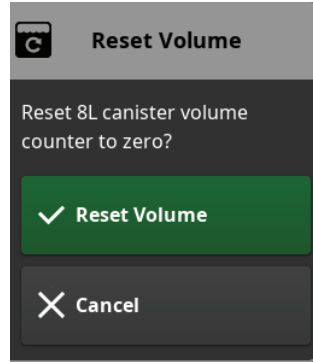

Figure 24 – To Reset Fluid Volume Value
5. If the procedure fluid volume measurement reads anything other than zero milliliters, touch the RESET VOLUME button to reset the fluid volume value to zero, then select the confirm button (Figure 24).